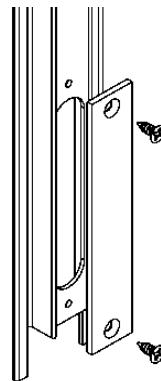

Figure 4:
8. On doors with meeting stiles, a stainless-steel cover is provided to cover the oblong holes at the bottom of the male meeting stile (Figure 4).